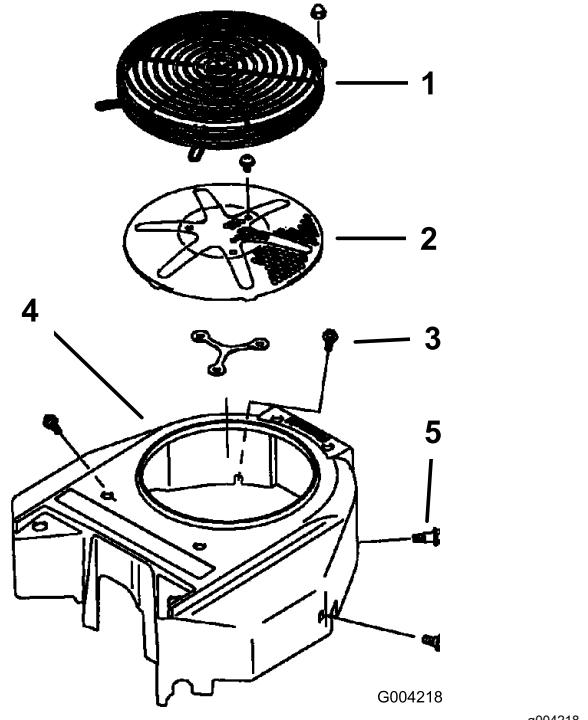

Figure 94
3. Remove the air-intake screen, the recoil starter, and the fan housing (Figure 94).
5. Install the air-intake screen, the recoil starter, and the fan housing (Figure 94).